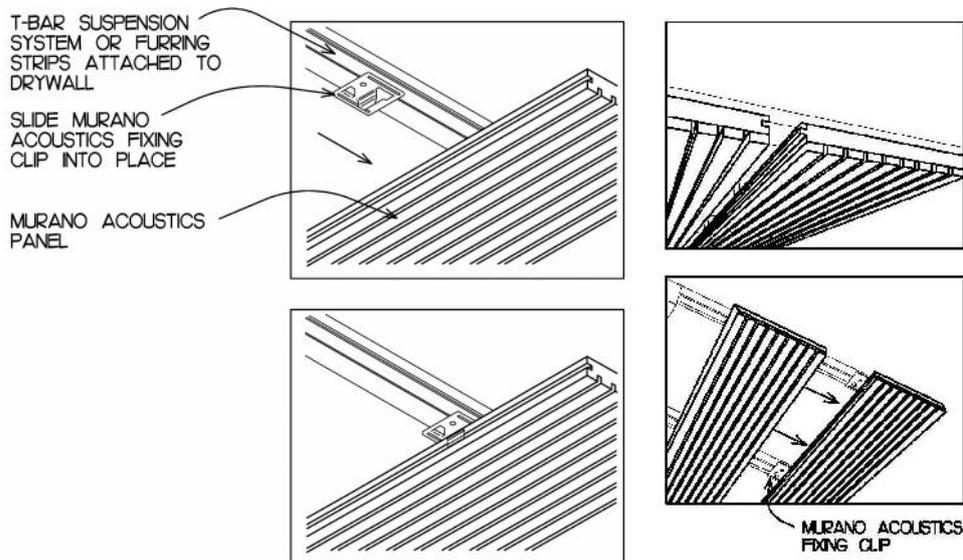

Figure 1-1 Installation Using Fixing Clips
2.2.5. The panels are installed using the Fixing Clips as shown in Figure 1-1.